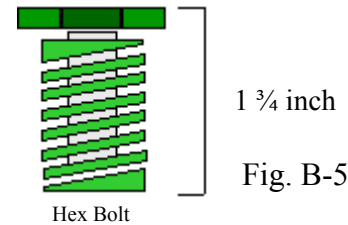

Fig. B-5
1. The hex bolt may be loose. Tighten hex bolt on top of the cylinder under the cap. See figure B-5. **Warning: hex bolt and spring are set to a manufacture's preset of 1 3/4 inch. Tighten or loosen bolt no more than 1/16 of an inch. Failure to do so may compromise the integrity of the cylinder, or cause the mechanism to malfunction.**